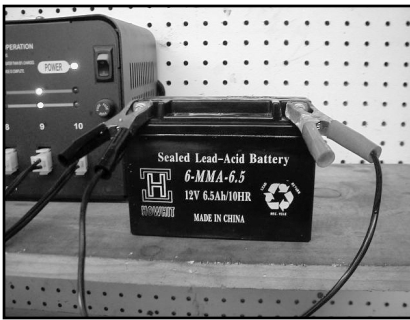

FIGURE 25
- 2 Connect the black negative (-) cable to the black negative (-) pole of the battery. **(see figure 25)**